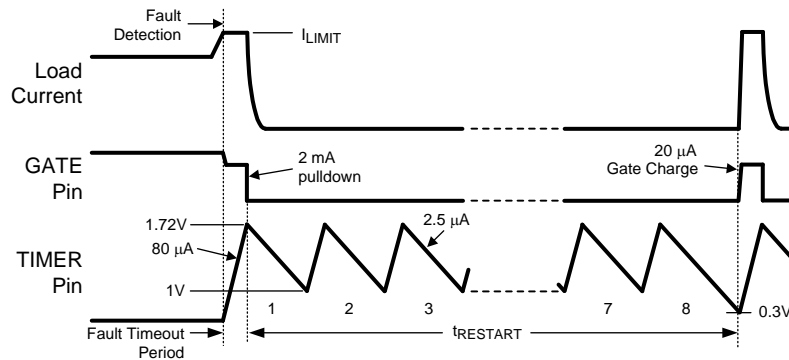

Figure 25. Restart Sequence (LM25061-2)
When the current limit or power limit threshold is reached during turn-on or as a result of a fault condition, the gate-to-source voltage of Q1 is modulated to regulate the load current and power dissipation in Q1. When either limiting function is activated, an 80 μA fault timer current source charges the external capacitor (C_T) at the TIMER pin as shown in Figure 25 (Fault Timeout Period). If the fault condition subsides during the Fault Timeout Period before the TIMER pin reaches 1.72V, the LM25061 returns to the normal operating mode and C_T is discharged by the 2.5 μA current sink. If the TIMER pin reaches 1.72V during the Fault Timeout Period, Q1 is switched off by a 2 mA pull-down current at the GATE pin. The subsequent restart procedure then depends on which version of the LM25061 is in use.
The LM25061-2 provides an automatic restart sequence which consists of the TIMER pin cycling between 1.72V and 1V seven times after the Fault Timeout Period, as shown in Figure 25. The period of each cycle is determined by the 80 μ A charging current, and the 2.5 μ A discharge current, and the value of the capacitor C_T . When the TIMER pin reaches 0.3V during the eighth high-to-low ramp, the 20 μ A current source at the GATE pin turns on Q1. If the fault condition is still present, the Fault Timeout Period and the restart cycle repeat.
C) Restart Timing For the LM25061-2, after the Fault Timeout Period described above, C_T is discharged by the 2.5 μA current sink to 1.0V. The TIMER pin then cycles through seven additional charge/discharge cycles between 1V and 1.72V as shown in Figure 25. The restart time ends when the TIMER pin voltage reaches 0.3V during the final high-to-low ramp. The restart time, after the Fault Timeout Period, is equal to: